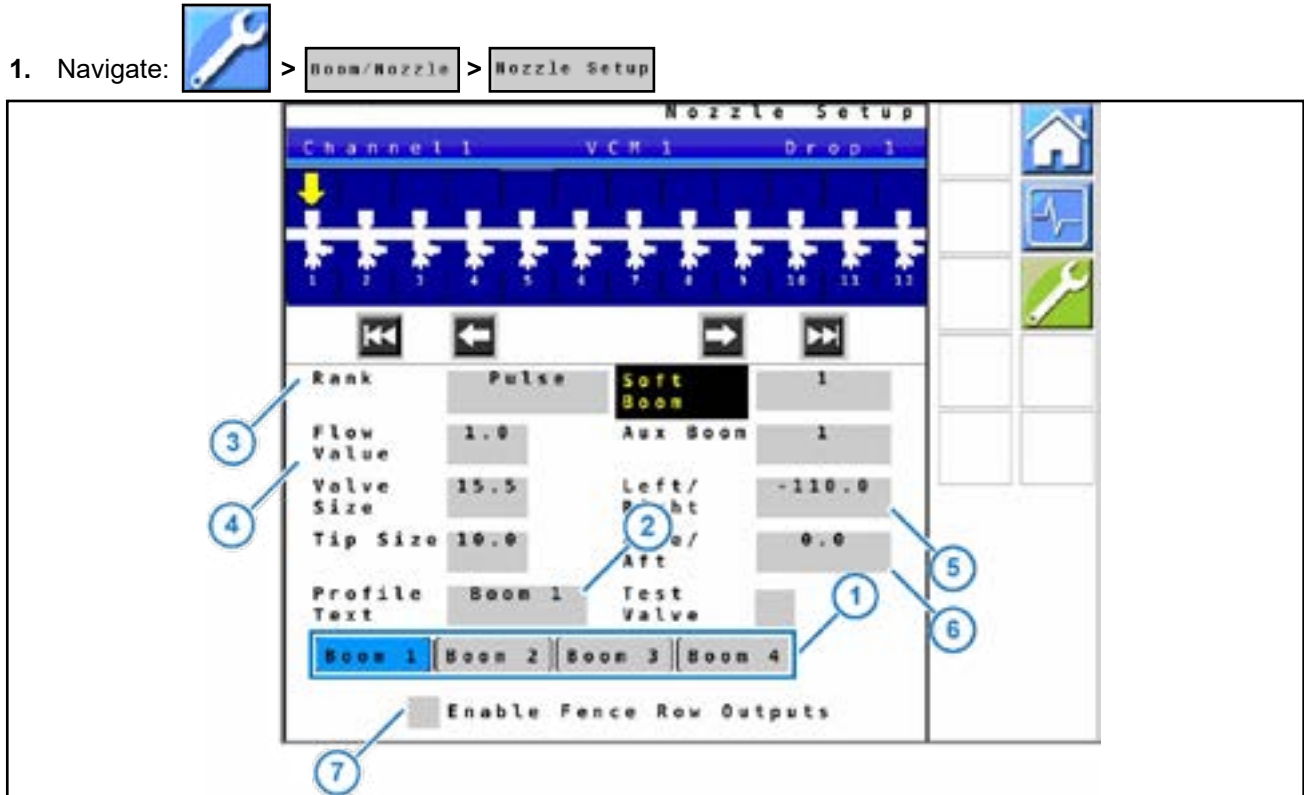

Figure 22: Profile Names on Nozzle Setup Screen
2. At the bottom of the screen, select the desired Profile name (Figure 22, Item 1).
3. Select the box (Figure 22, Item 2) next to **Profile Text**.
6. The **Nozzle Rank** (Figure 22, Item 3) can be changed from the default **Pulse** setting to accommodate different operational requirements. Nozzles must be selected individually using the arrows to change their respective behavior. See Table 4 on Page 43 for Rank explanations.
7. The **Flow Value** (Figure 22, Item 4) adjusts the amount of flow from that nozzle to increase/decrease volume applied.
8. The **Left/Right** (Figure 22, Item 4) number indicates the selected nozzle's location left or right from the center of the boom. Nozzles to the left of center are negative values while nozzles to the right of center are positive values.
- The **Fore/Aft** (Figure 22, Item 6) number indicates the nozzle location from the primary spray boom. This is typically left as the default 0 value. However, front-mounted boom sprayers may utilize this for rear boom application.
- The **Enable Fence Row Outputs Checkbox** (Figure 22, Item 7) is used to enable 12V fence row outputs on Pins 1 & 4 of the Digital Output port and Pin 3 of VCM ports 1 & 4. These are controlled by on-screen switches located on the Home screen.